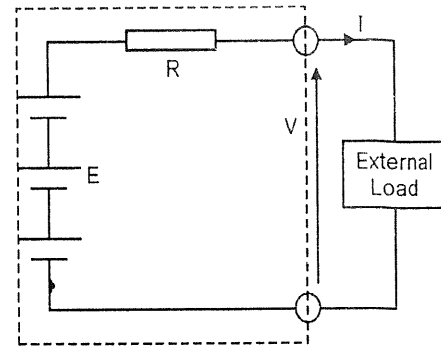

FIG. 5.24 : SIMPLE EQUIVALENT CIRCUIT MODEL OF A BATTERY THIS BATTERY IS COMPOSED OF SIX CELLS
- The 'internal resistance' and the equivalent circuit of a battery is shown in Fig. 5.24.
- The battery is represented as having a fixed voltage E , but the voltage at the terminals that different voltage V , because of the voltage across the internal resistance R . Assuming that a current I is flowing out of the battery, as in Fig. 5.24, then by basic circuit theory we can say that :